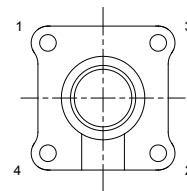

Fig. 9
- 9.2 The body bolts should be tightened until finger tight and then gradually fully tightened per the bolting sequence shown in figs. 9 & 10 to the torque shown in table 2. It is important that tightening be done gradually so as not to trap or pinch any part of the seats or seals and to maintain concentricity.